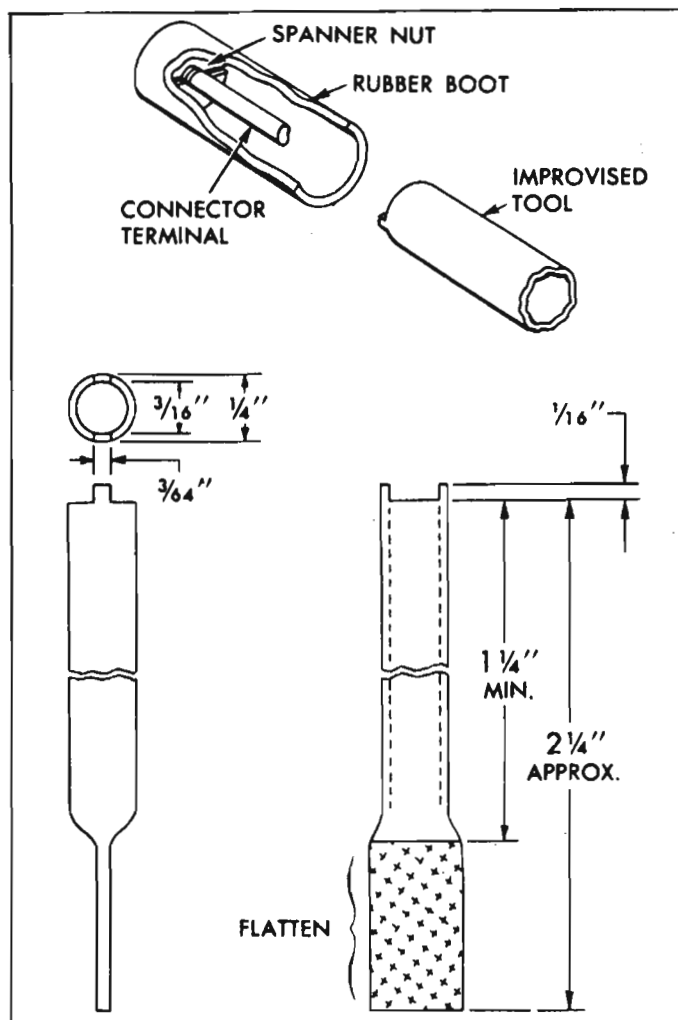

Fig. 9-44—Gauge Unit Seal Tight Tool
5. Reverse the above procedure to install a gauge unit. Before plugging in the gauge wire, the spanner nut in the plug receptacle should be checked for tightness. A tool shown in Figure 9-44 may be easily constructed for this purpose. This nut must be tight or leakage will occur at this point.
NOTE: Before replacing gas tank, the spanner nut in the plug receptacle should be checked for tightness. A tool such as is shown in Figure 9-44 may be easily constructed for this purpose.